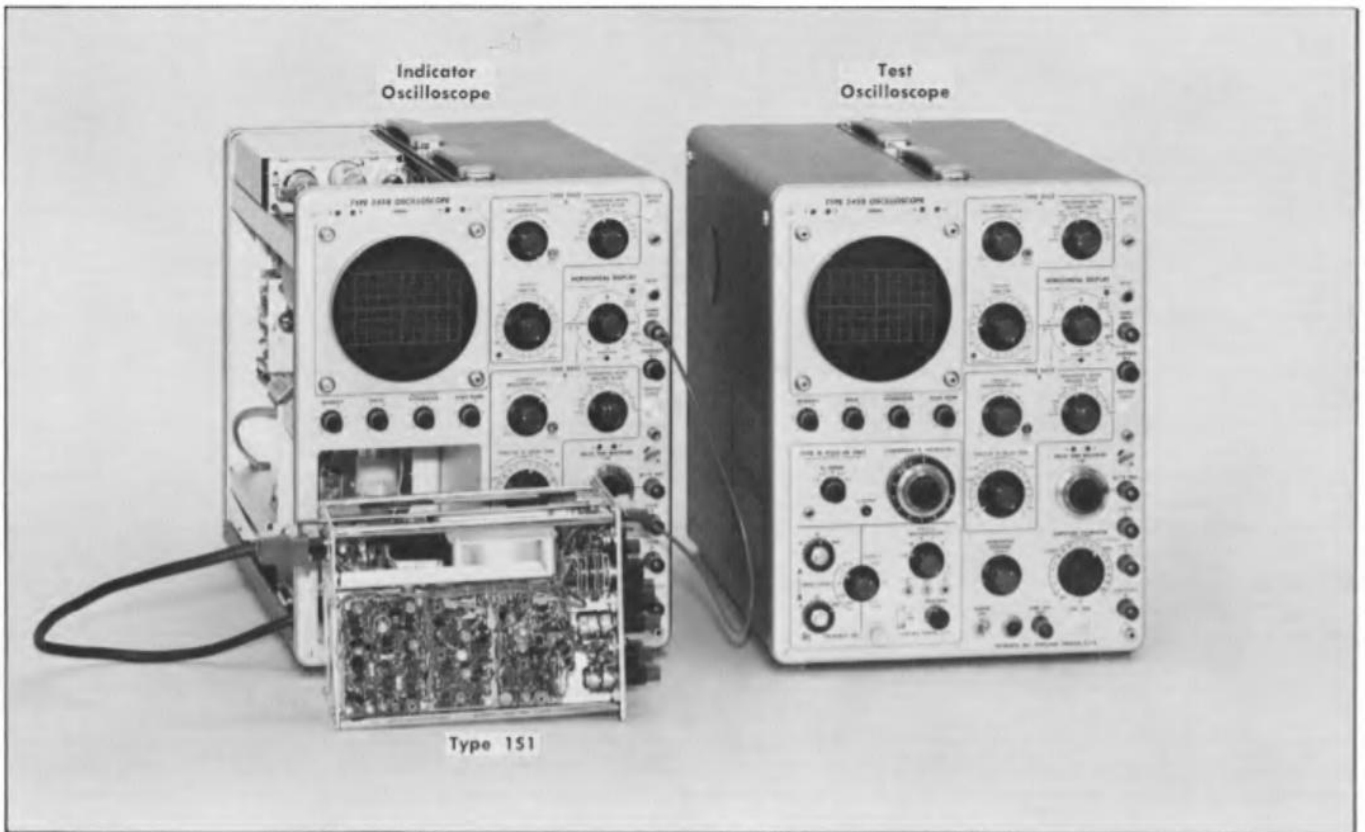

Fig. 5-7. Initial test setup for steps 4 through 7.
- a. Test equipment setup is shown in Fig. 5-7.